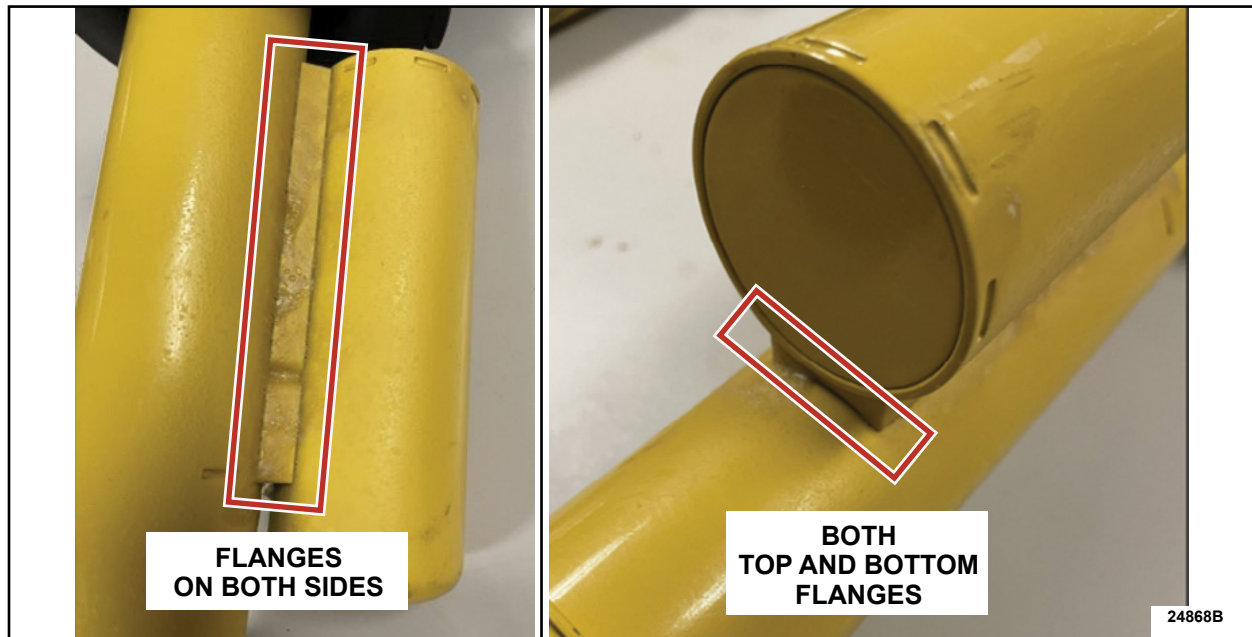

FIGURE 6
6. On both sides, use isopropyl or acetone to clean and fully dry the entire flange areas shown in Figure 6.